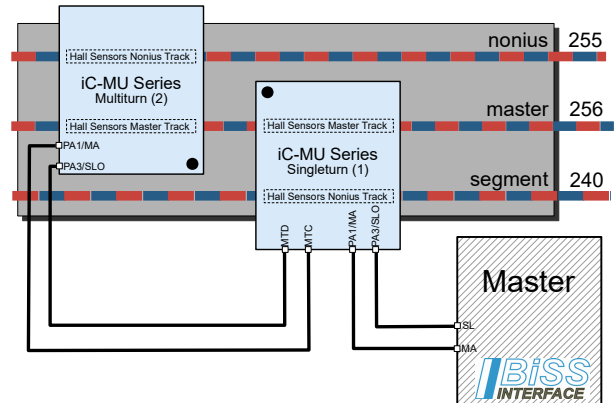

Figure 42: 3-track nonius with 2 iC-MU
The construction of such a system is shown as an example in Figure 42 and the configuration in Table 68.
To facilitate the initial configuration of an iC-MU as a SSI multturn device the command SWITCH can be used (see page 59). The singleturn iC-MU (1) in Figure 42 has to enable the direct communication to the multiturn sensor by setting GET\_MT to 1. The configuration of iC-MU (2) can take place using the BiSS protocol. After the configuration of the external multturn MODEA\_NEW and RPL\_NEW are used to set the target configuration of MODEA and RPL. After that the command SWITCH is executed. By reading STATUS1 it is possible to control if there was an error while executing the command. After the next startup or after the execution of the command SOFT\_RESET iC-MU starts with the interface configured with MODEA\_NEW and RPL\_NEW.